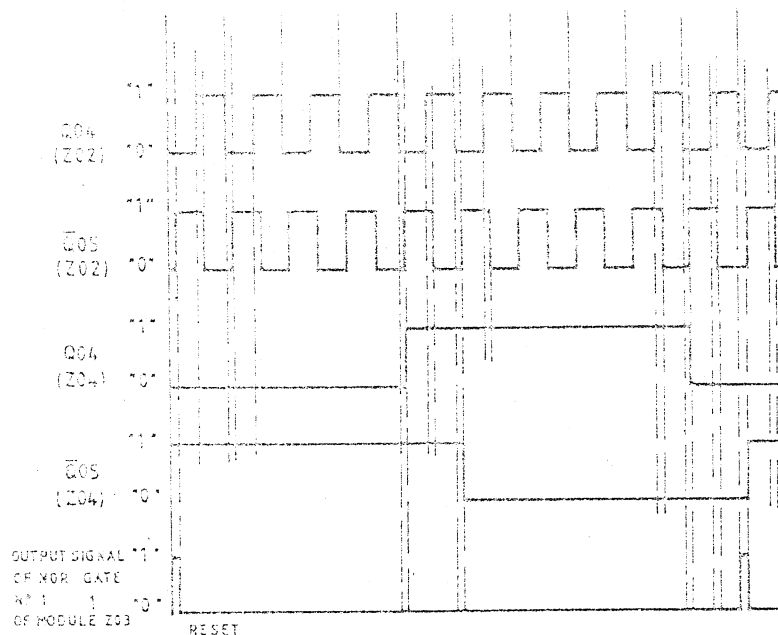

Fig. 14 Enabling Timing Diagram for Setting 10 kHz = 0, 1 kHz = 0
- 117 Enabling of NOR gate 1 by the setting '0,0' is shown below in Figure 14.
118 From Figure 14 it can be seen that NOR gate 1 of module Z03 is enabled:-